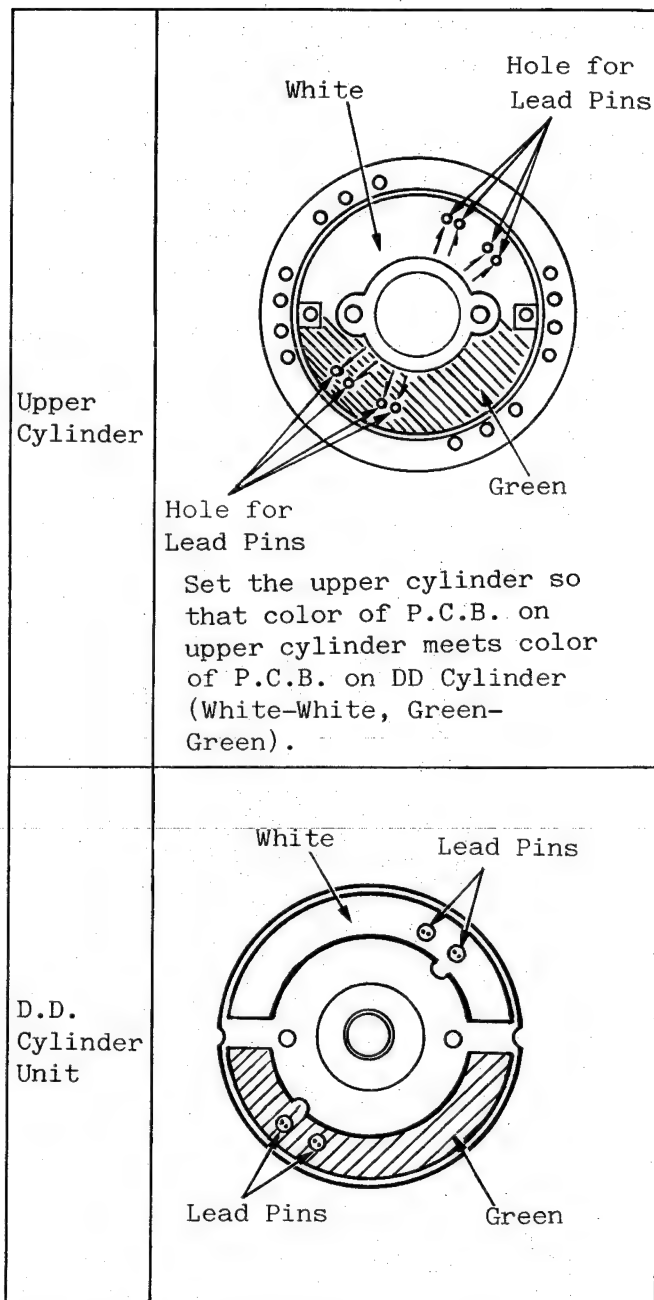

Fig. M10-5 Replacement of Upper Cylinder Unit
- For details on the installation position, refer to Fig. M10-5.